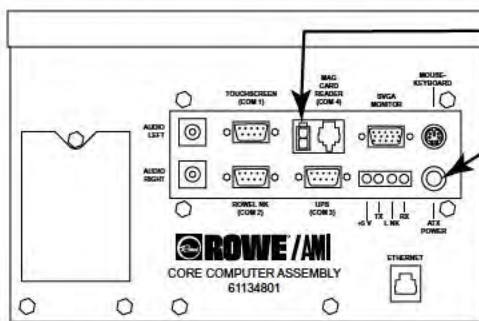

Figure 2-1
3. If the CC does not automatically start to boot up, press the CC ATX power button (Figure 2-1) in once and release.
- If the CC does not start automatically, press the CC ATX power button (figure 2-1) in once and release. This boots up the CC and starts the application.